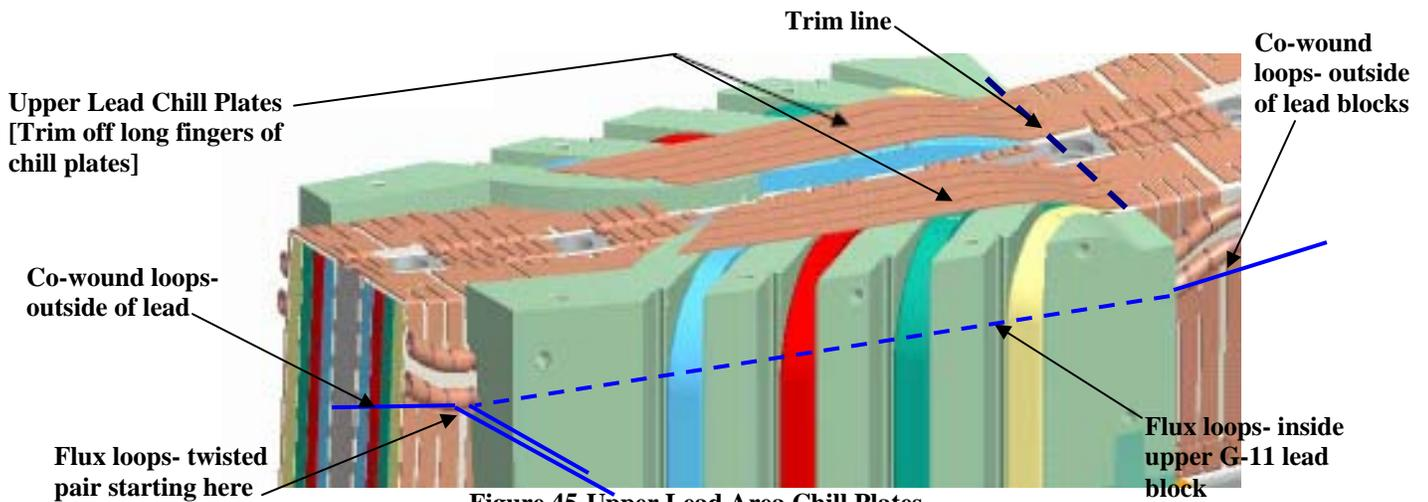

Figure 45-Upper Lead Area Chill Plates
Install the remaining upper chill plates on the top side of the lead area. Fitup and solder in place per section 6.32.2. Cutoff long fingers on upper chill plates as shown in [Figure 45-Upper Lead Area Chill Plates]. Install (2) layers of Kapton insulation over the edges of the chill plates where they were trimmed